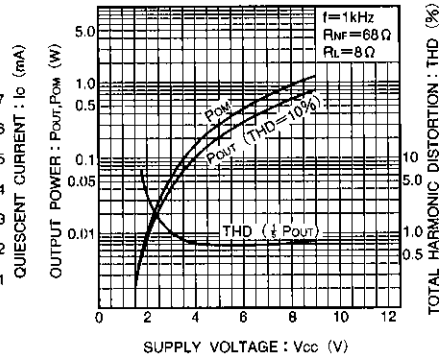

Fig. 2 Rated and max. output power and total harmonic distortion vs. supply voltage
- 1) High output. $P_{OUT} = 330\text{mW}$ ($V_{CC} = 6\text{V}$ and an 8 Ω load (THD = 10%)). See Fig. 2.